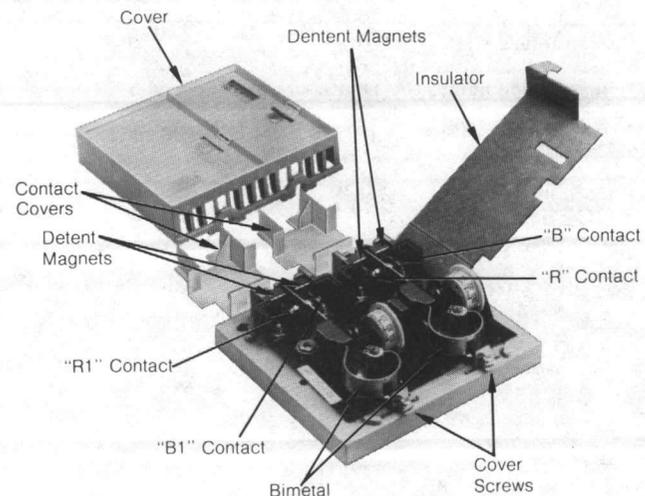

Figure 1
3. Remove thermostat cover, remove screw that secures right-hand of insulator, fold back insulator, and remove contact covers. (Figure 1.)